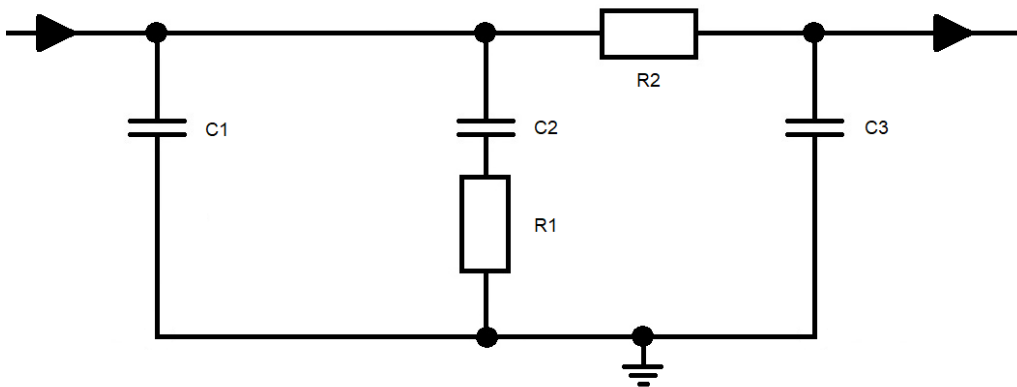

Figure 6: Loop Filter Design
The loop filter is a passive Resistor-Capacitor (RC) network that removes unwanted frequencies. It provides a gain to noise passing through it as well as generating some unwanted noise. Let's first look at how the filter is set up by considering Figure 6. Note that the input capacitance of the VCO is accounted for by the simulation tool and effectively adds a shunt capacitance to C3 of the loop filter shown in Figure 6.